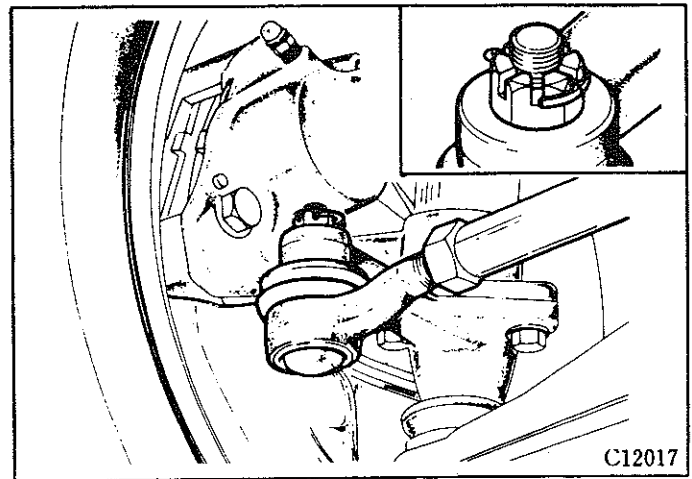

Fig. 29—Installing the tie-rod end to knuckle arm
- (4) When connecting the tie-rod end to the knuckle arm, tighten the nut to specifications, insert the cotter pin and spread it as shown in Fig. 29.
- (5) Install the stabilizer and strut bar.
- (6) Install the brake assembly and wheel.